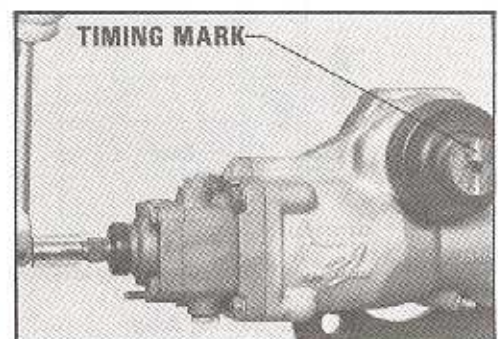

Figure 44
rotate the worm shaft until the timing mark on the end of the sector shaft (46) is vertical (90°) to the worm shaft. This will position the gear for sector shaft removal. SEE FIGURE 44.